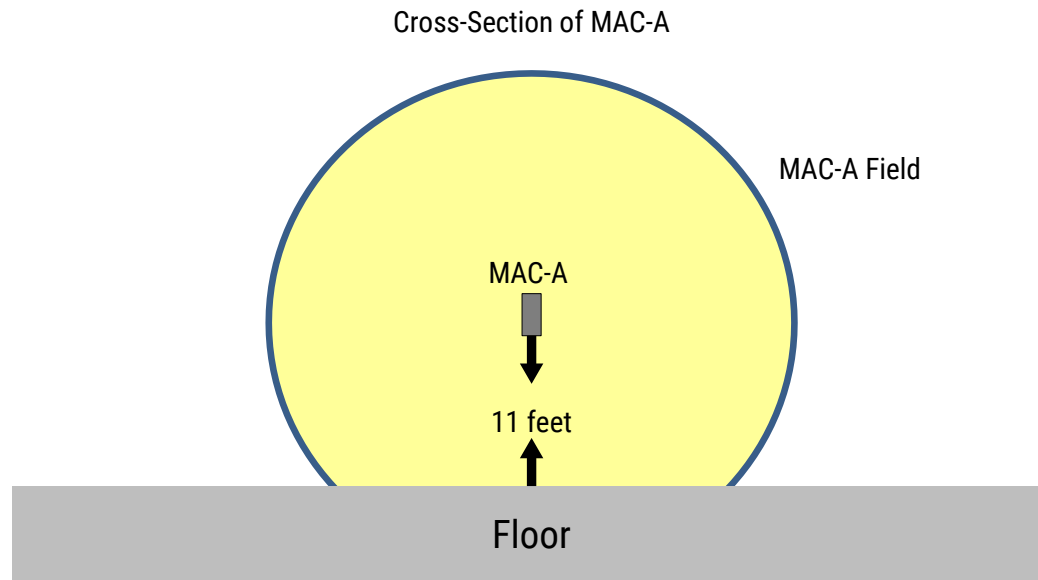

Fig. 5
- If the placement of the MAC-A needs to be higher, the width on the floor will be reduced. If the placement is lower than 11 feet, then the width will be wider (Refer to the cross-section below) (**Fig. 5**).